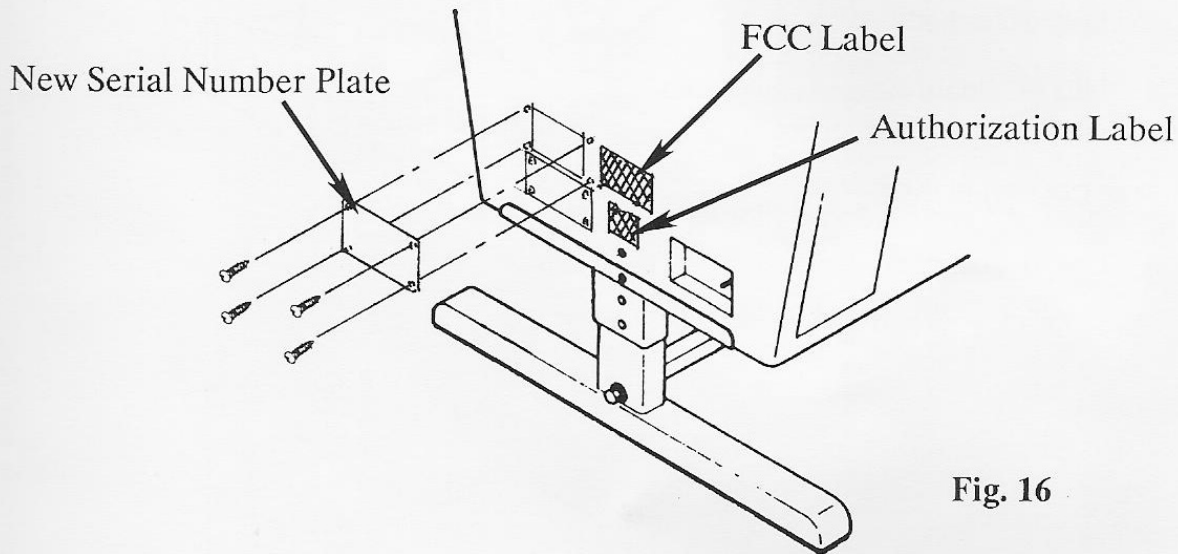

Fig. 16
- A. Place the new serial number plate over the old FCC class A sticker and mark the location of the four (4) corner holes with a center punch.
- C. Attach the serial number plate using four (4) #6 x 3/8" sheet metal screws and a Phillips head screwdriver (see Figure 16).
13. Attach the FCC Class A Label (see Figure 16)
Remove the paper backing of the authorization sticker and adhere it just under the FCC label (see Figure 16).